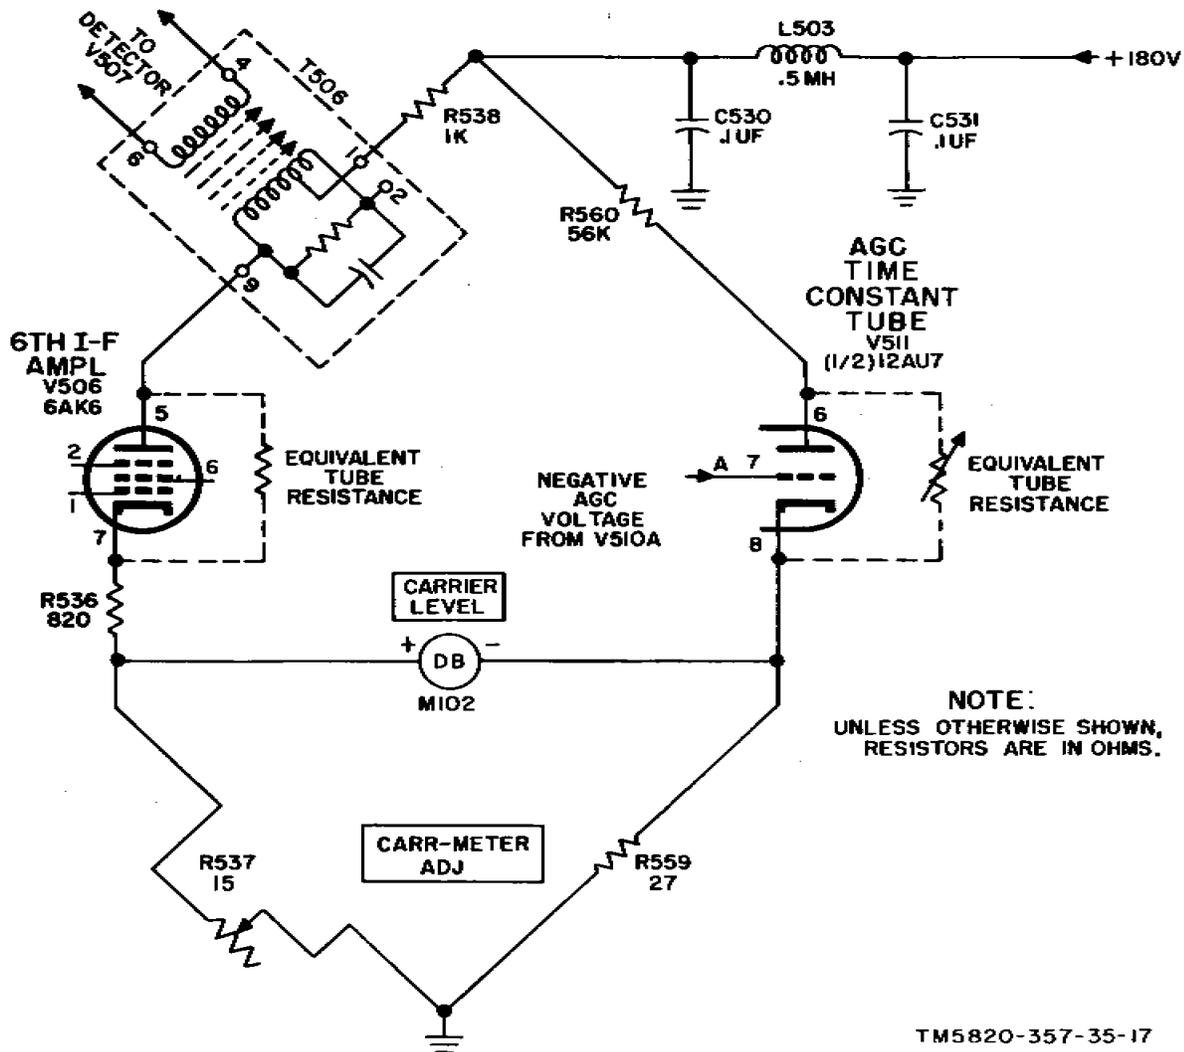

Figure 10. CARRIER LEVEL meter circuit, simplified schematic diagram.
## 22. Agc and CARRIER LEVEL Meter Circuits V509, V510, and V511 (fig. 10 and 62)
e. *CARRIER LEVEL Meter Circuit (fig. 10 and 62).* CARRIER LEVEL meter M102 indicates the relative strength of a received rf signal. Sixth if. amplifier V504, age time constant tube V511A, and their circuit components form a bridge circuit. Meter M102 indicates the bridge unbalance.
- (1) The resistors drawn in parallel with the tubes in figure 10 show that V506 appears as a constant resistance in the bridge circuit